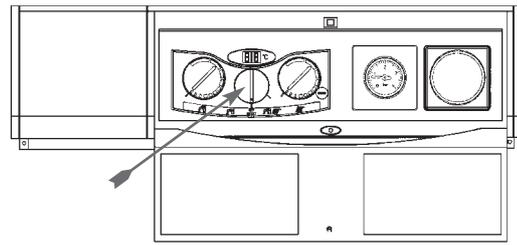

Fig. 2
**2.1** With the boiler mode selector switch (6) turned to (Fig. 2) the main burner will ignite electronically whenever water is drawn from the tap.